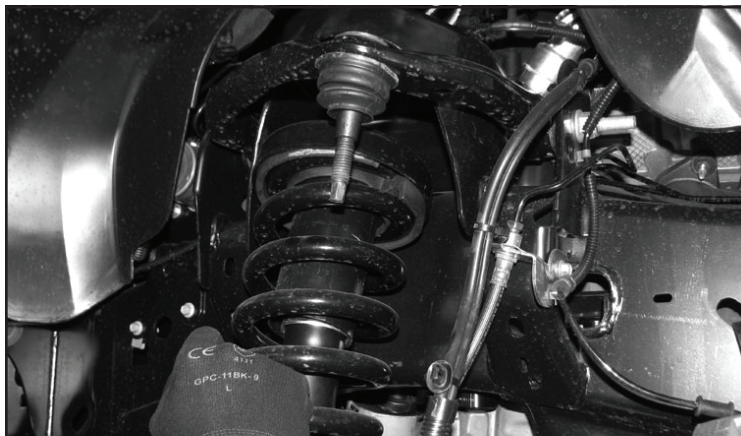

FIGURE 5 - STEP 6
6. Remove the three nuts attaching the coilover to the upper mount and remove the factory coilover. **SEE FIGURE 5**